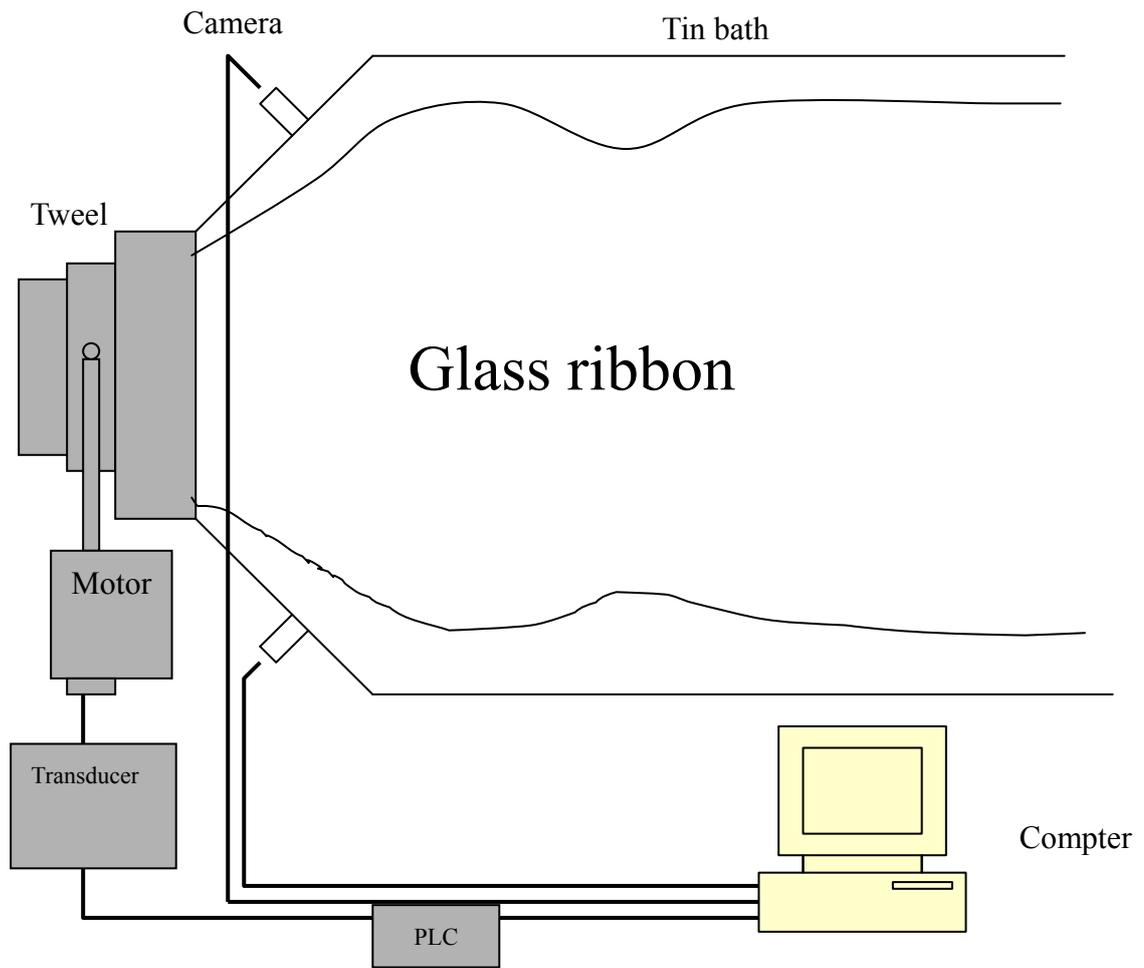

Fig. 2 System Structure
1.3 System structure: as shown in Fig. 2 above